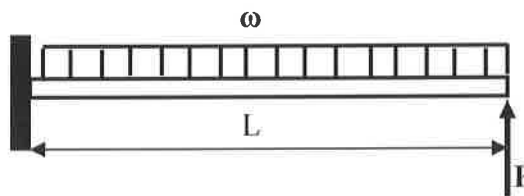

Figure Q5
5. The uniform cross-section cantilever of length L (m) shown in Figure Q5, carries a uniformly distributed load ω (N/m) and is supported on a rigid knife edge at its free end. Determine an equation for the supporting force P (N). Take the flexural stiffness of the cantilever = EI . ($P=3\omega L/8$)